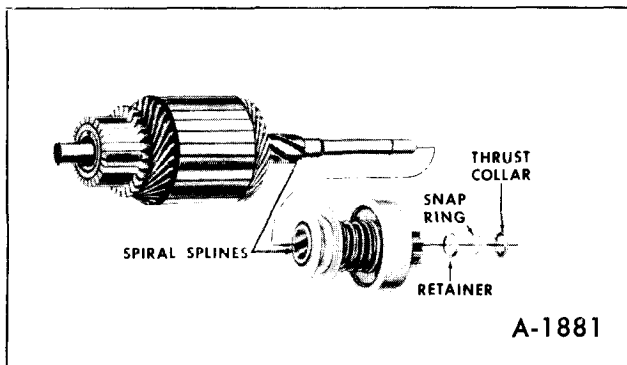

Figure 42-Starter Clutch
- a. Remove thrust collar from armature shaft. (figure 42)
b. Slide clutch assembly onto armature shaft with pinion away from armature. (figure 42)